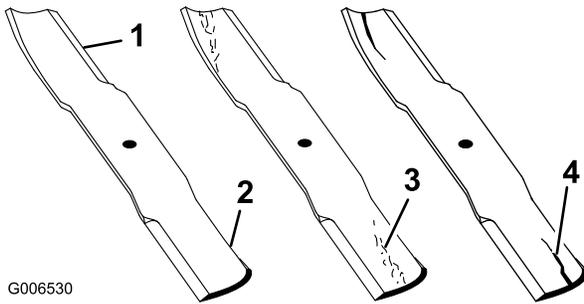

Figure 82
1. Inspect the cutting edges (Figure 82).
2. Inspect the blades, especially the curved area (Figure 82).
If you notice any damage, wear, or a slot forming in this area (Figure 82), immediately install a new blade.